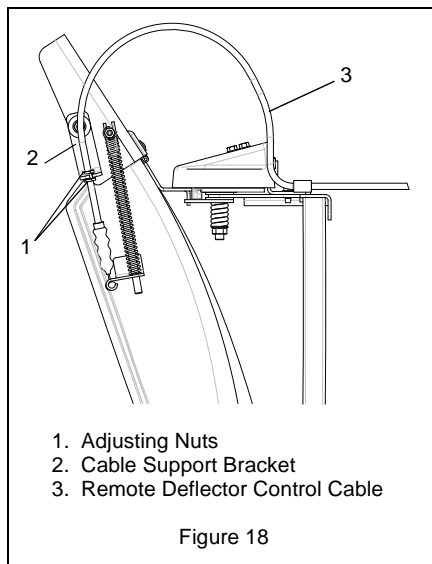

Figure 18
(Figure 18)
1. Tighten nut beneath control panel to increase pressure on deflector control (Figure 18).
2. Loosen adjusting nuts on remote deflector cable attached to the chute deflector (Figure 18).